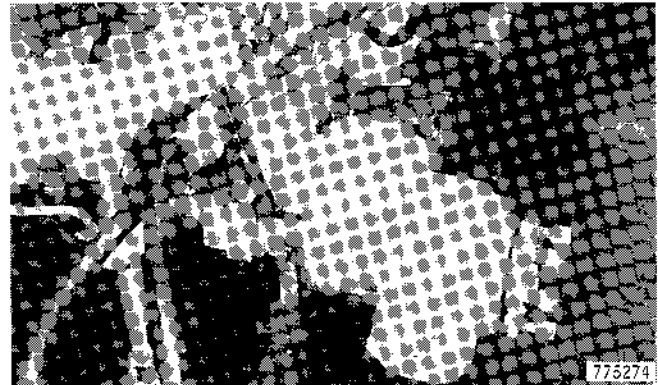

Figure 79
3. Install nuts and lock washers on studs. Tighten the nuts evenly to a torque of 75 foot-pounds (102 N m), Figure 79.